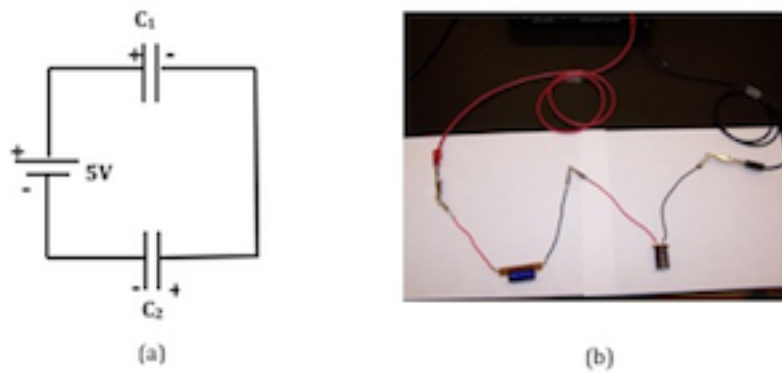

Figure 6: Circuit diagram and photo of capacitors in series
- 4 Connect the two capacitors in series. They must be connected so that the arrows printed on each capacitor are facing the same direction as shown in Fig. 6.
- 30 Connect the power amplifier to the arrangement as shown in Fig. 6.
- 34 Using measured values for the total capacitance and voltage and Eq. (1), calculate the charge in the series arrangement. Record these values in Data Table 2.
- 35 Using Eqs. (2) and (15) and the measured values of the capacitances, calculate the energies stored in the individual capacitors and the series arrangement. Record these values in Data Table 2.
- 36 Calculate the theoretical capacitance for the series arrangement using Eq. (14). Record this value on the worksheet.
- 38 Using Eq. (10), calculate the theoretical voltage for the series arrangement. Record this value on the worksheet.